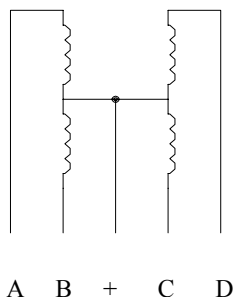
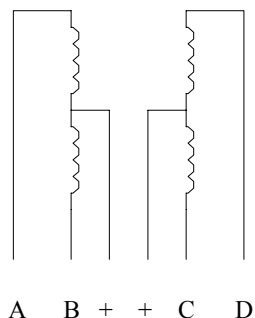

Fig 1. Five-wire stepper motor
Fig 2. Six-wire stepper motor
2. Unipolar motors. These have two center-tapped coils which are treated as four coils. These motors can have **five, six or eight** wires. Five-wire motors have the two center-taps commoned internally and brought out as one wire (Fig 1). Six-wire motors bring out each center-tap separately. The two center-taps need to be commoned externally (Fig 2). Eight-wire motors bring out both ends of each coil. The four "center-taps" are joined externally to form one wire. In each case the center-tap(s) are connected to a positive motor power supply. Unipolar motors may be connect as bipolar ones by not using the '+' wires.